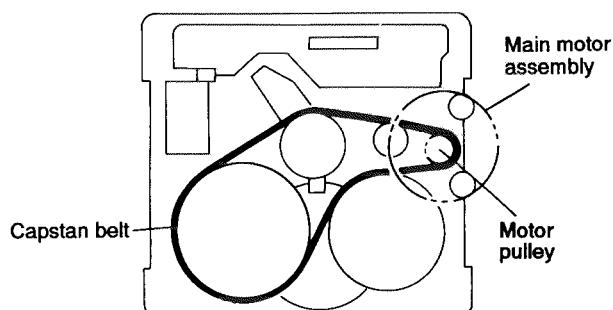

Fig. 5-23
**Caution 1:** Be sure to handle the capstan belt so carefully that this belt will not be stained by grease and other foreign matter. Moreover, this belt should be hanged while referring to the capstan belt hanging method in Fig. 5-23, 24.